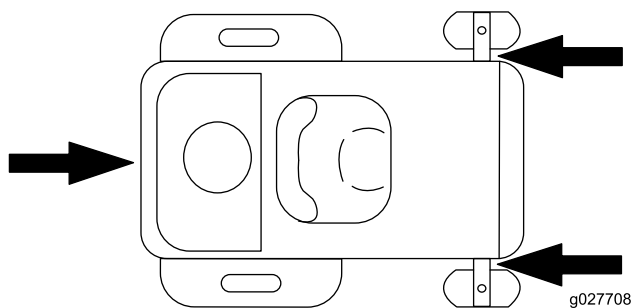

Figure 20
5. Tie down the machine near the front caster wheels and the rear bumper (Figure 20).